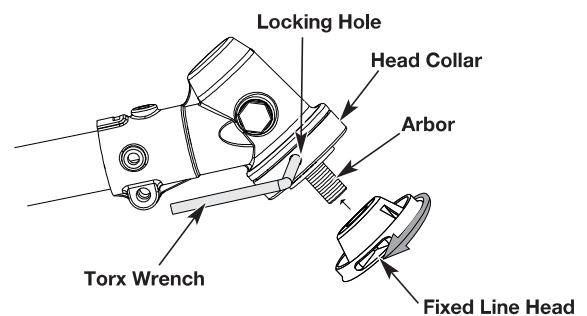

Fig. 20a
4. Screw the fixed head counterclockwise onto the arbor until securely tightened (Fig. 20a). Remove the Torx wrench from the locking hole.